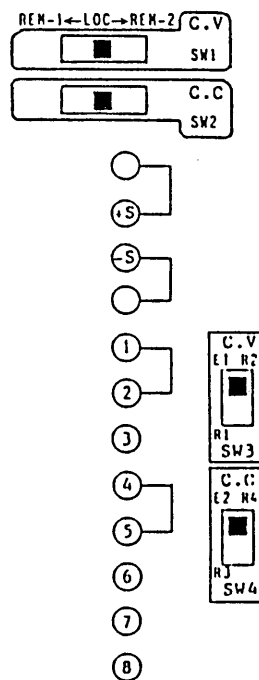

Figure 2-5
- o Confirm that the jumpers of the rear terminal block are connected as shown in Figure 2-5 (when the power supply is operated in the regular conditions).